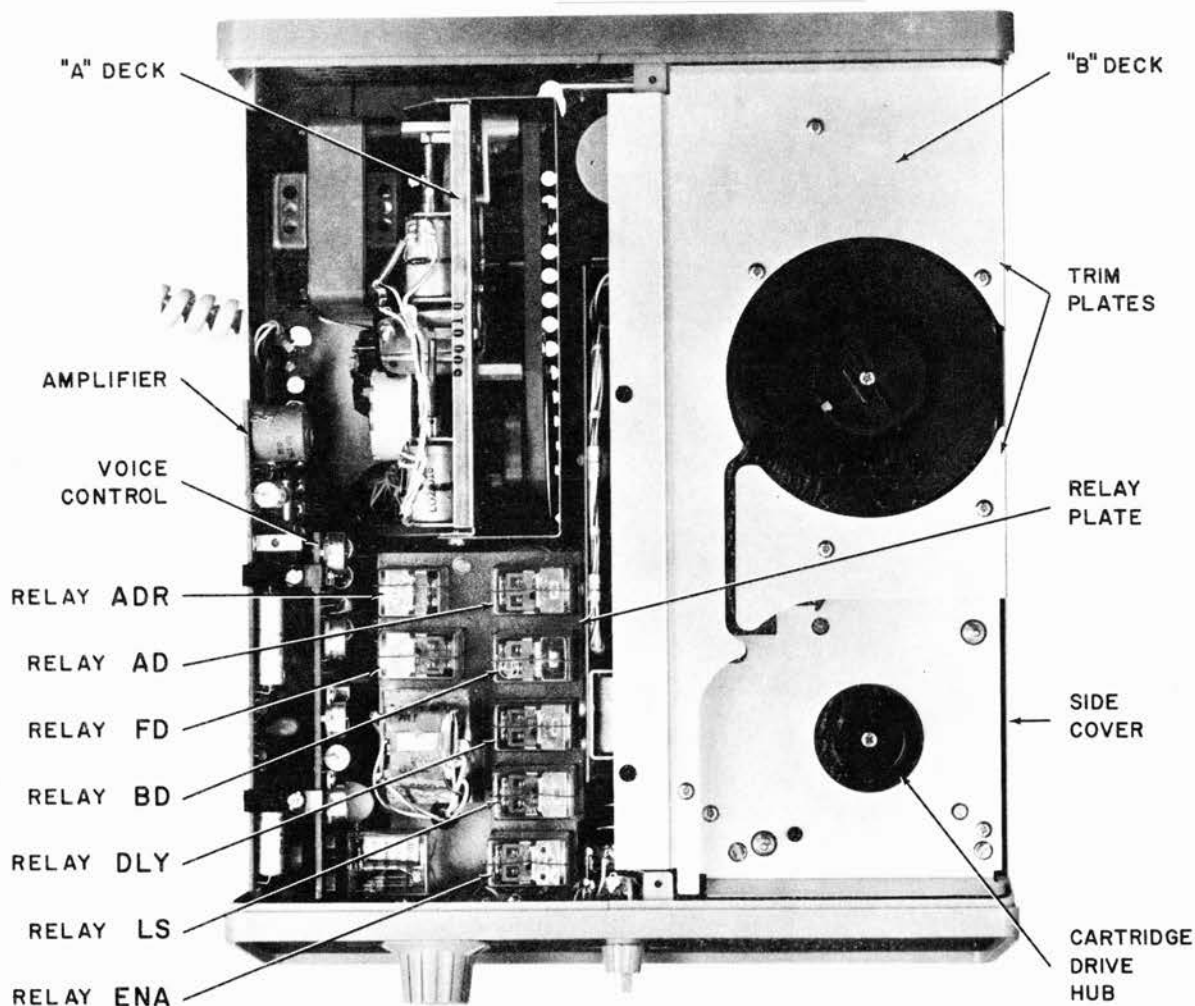

FIGURE 10 MODEL 700 TOP VIEW, COVER AND TAPE CARTRIDGE REMOVED
The outgoing announcement length is automatically set each time it is recorded onto the "A" Deck (fig. 10), up to a maximum of 3 minutes. This 3-minute maximum may be reduced as follows:
2. RELAYS (fig. 10):
3. AMPLIFIER AND VOICE CONTROL (fig. 10):
4. "A" DECK (fig. 10):
5. "B" DECK (fig. 10):
- c. Remove 4 screws and Side Cover (fig. 10).
- e. Carefully unplug and lift out "B" Deck. Do not lift or pry on Trim Plates (fig. 10).
- b. Remove 4 screws and Side Cover (fig. 10).